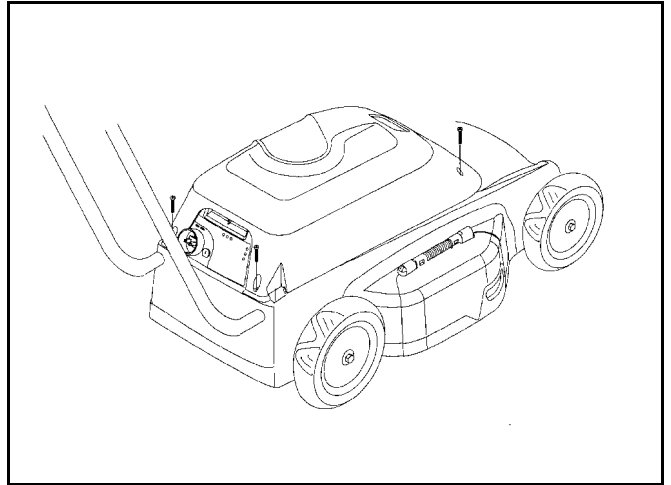

Figure 56
1. Remove four screws and lift cover off (Figure 56).